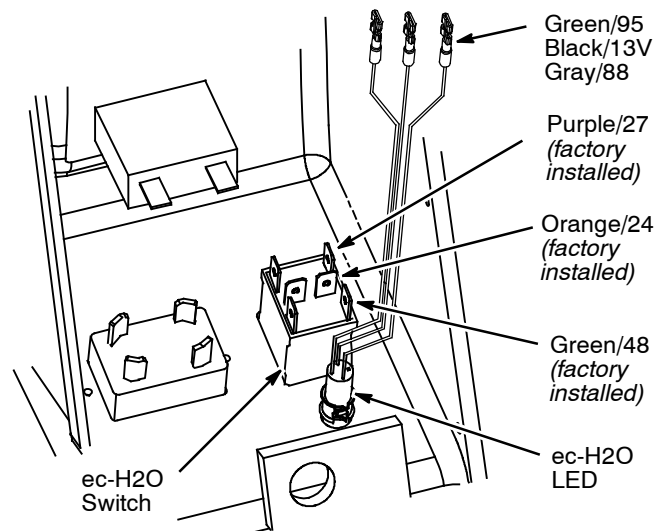

Fig. 10
2. Connect the routed ec-H2O harness wires to the ec-H2O LED. Locate the factory installed wires and connect to ec-H2O switch as shown (Figure 10).